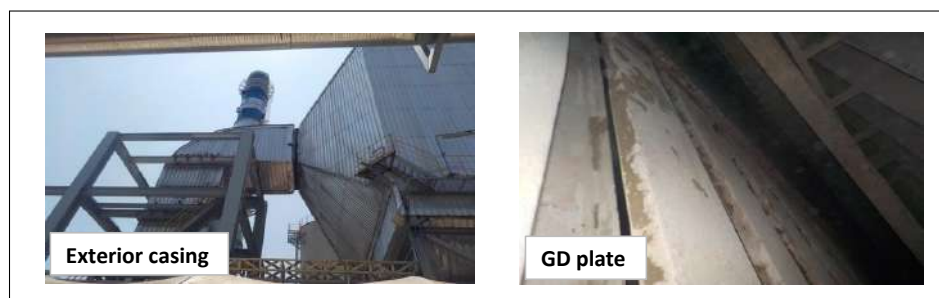

Fig.2 Outlet cone
2. Outlet cone: The exterior casing was in normal condition, and the GD plate inside the outlet cone was also in normal condition; only ash accumulation was found. (Fig.2)